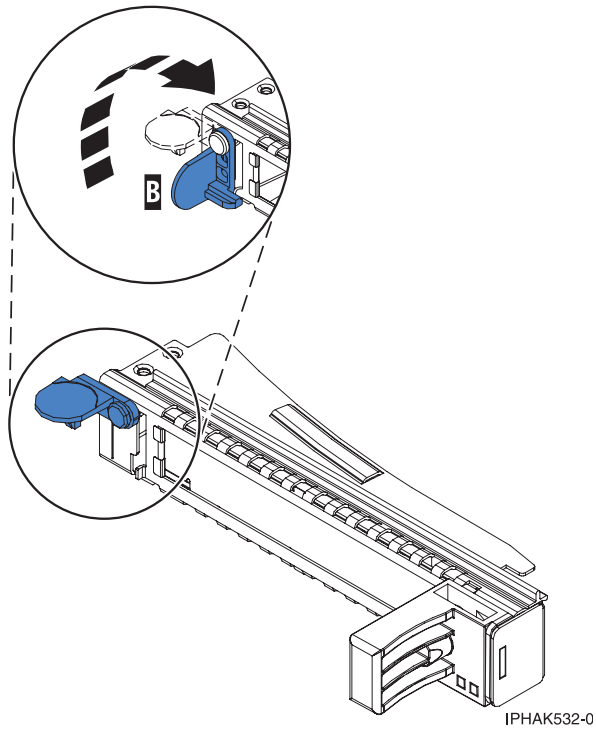

Figure 52. Opening the tailstock clamp
- a. To unlock the filler tailstock, rotate the latch (**B**) at the tailstock end of the cassette as shown in Figure 52 on page 48.